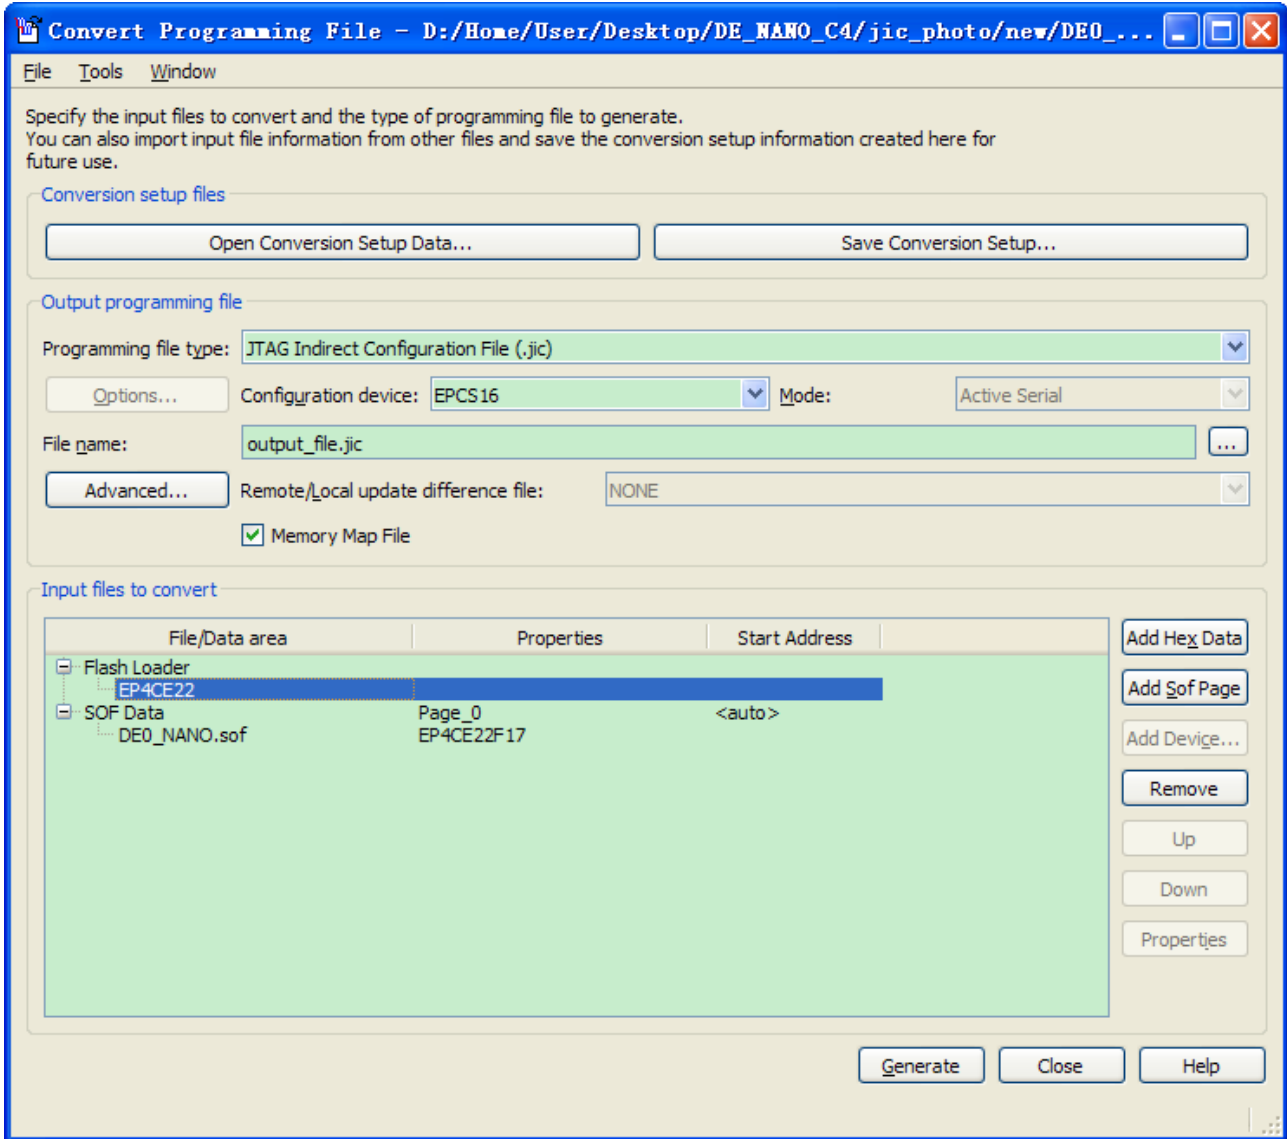

Figure A4. Convert Programming Files Page
12. Click OK. The **Convert Programming Files** page displays. See Figure A4.